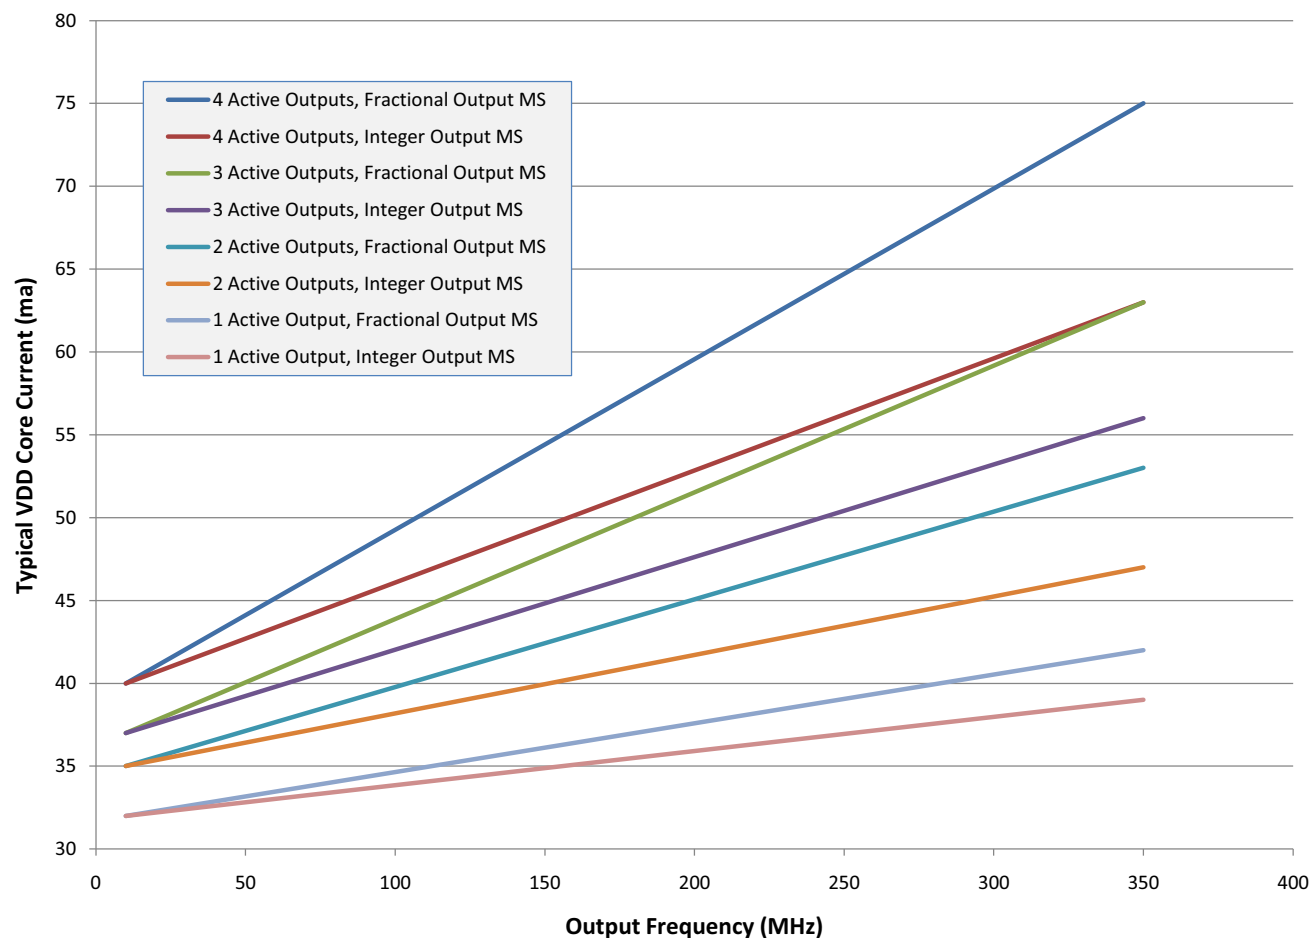

Figure 14. Core VDD Supply Average Current vs Output Frequency
- Because of internal voltage regulation, the current from the core V_{DD} is independent of the V_{DD} voltage and hence the plot shown in Figure 14 can be used to estimate the V_{DD} core (pins 7 and 24) current.